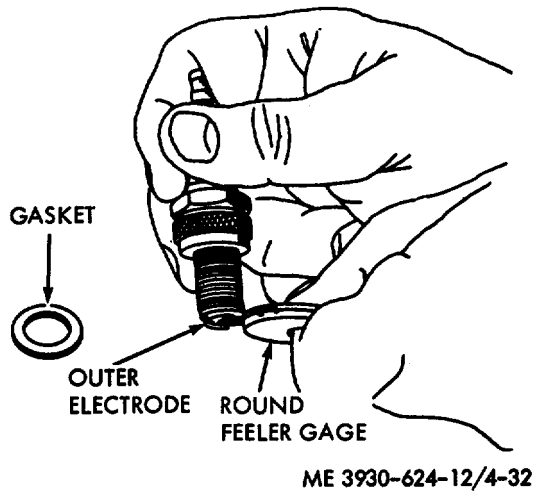

Figure 4-32. Spark plug gap.
(1) Clean the exterior of the spark plugs with a cloth dampened with a cleaning solvent. Use a sandblast type cleaner, if available, to clean the electrodes.
(2) Inspect the spark plugs for cracked insulation and burned electrodes.
(3) Test the spark plugs on a high-voltage tester. A hot, blue spark must arc across the electrodes during the test. Replace shorted plugs.
(4) If spark plugs are suitable for reuse, check and adjust the spark plug gap. Check the gap on new or used spark plugs with a round feeler gage. Refer to figure 4-32. The required gap is 0.025 inch. Adjust the gap to this dimension, if necessary, bending the side electrode only.